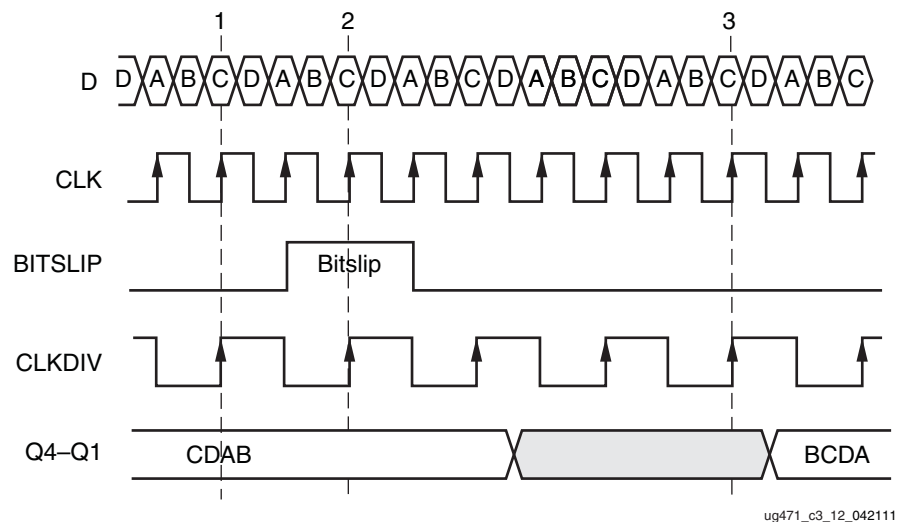

Figure 3-12: DDR Bitslip Functional Diagram
When the ISERDESE2 interface type is MEMORY, the latency through the OCLK stage is one CLKDIV cycle. However, the total latency through the ISERDESE2 depends on the phase relationship between the CLK and the OCLK clock inputs. When the ISERDESE2 interface type is NETWORKING, the latency is two CLKDIV cycles. See Figure 3-12, page 160 for a visualization of latency in networking mode. The extra CLKDIV cycle of latency in networking mode (compared to memory mode) is due to the Bitslip submodule.
This section discusses the timing models associated with the Bitslip controller in a 1:4 DDR configuration. Data (D) is a repeating, 4-bit training pattern ABCD. ABCD could appear at the parallel outputs Q1–Q4 of the ISERDESE2 in four possible ways: ABCD, BCDA, CDAB, and DABC. Only one of these four alignments of the parallel word makes sense to the user's downstream logic that reads the data from the Q1–Q4 outputs of the ISERDESE2. In this case, ABCD is assumed to be the word alignment that makes sense. Asserting Bitslip allows the user to see all possible configurations of the input data and then choose the required alignment (ABCD). Figure 3-12 shows the timing of a Bitslip operation and the corresponding re-alignments of the ISERDESE2 parallel outputs Q1–Q4.